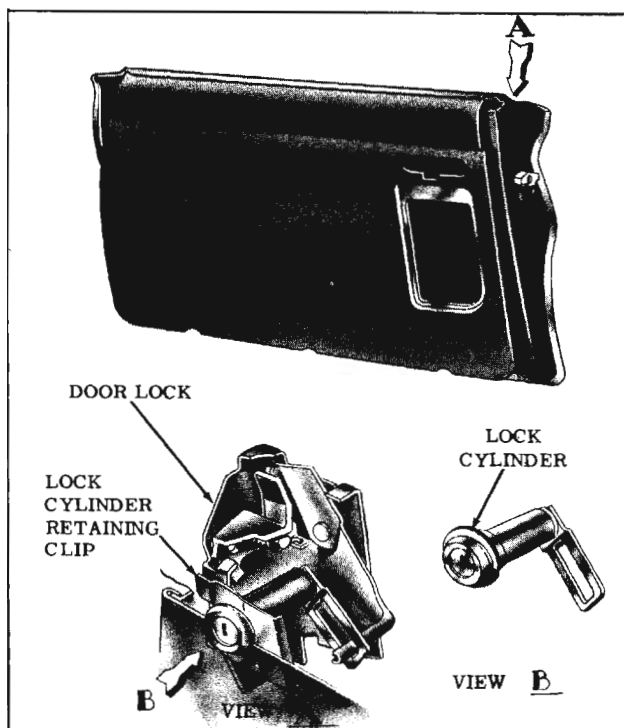

Fig. 16-251 Front Door Lock Cylinder Removal
2. With a suitable tool, through inner panel access hole, slide lock cylinder retaining clip forward sufficiently to allow removal of cylinder, then remove cylinder and gasket. (Fig. 16-251)